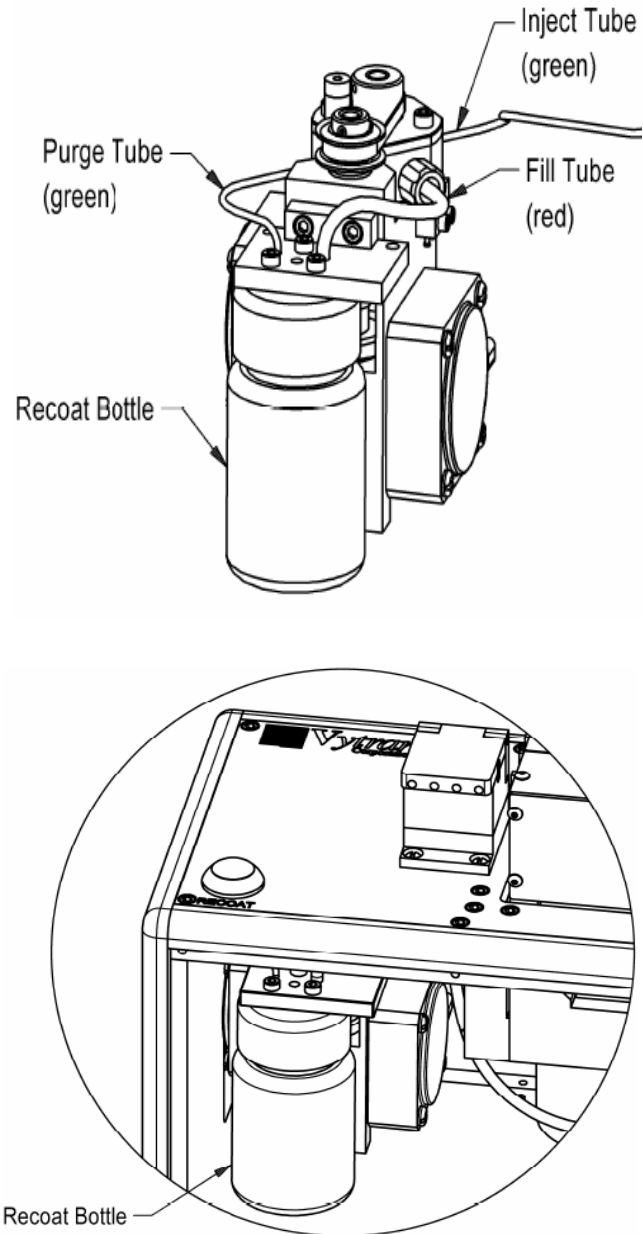

Figure 7 **PTR205 Recoat Bottle Access**
2. Remove the front plate of the device by using the 3/32" Allen wrench provided in the tool kit to remove the four (4) black socket-head cap screws located at the corners of the plate.
3. The recoat pump is located on the left side of the PTR205 as shown in Figure 7. Unscrew the brown recoat bottle located at the front of the pump and remove by angling out through the front opening. The red Fill tube will flex to allow removal.
5. Screw the new recoat bottle back into place and replace the front panel and the four (4) socket head cap screws.